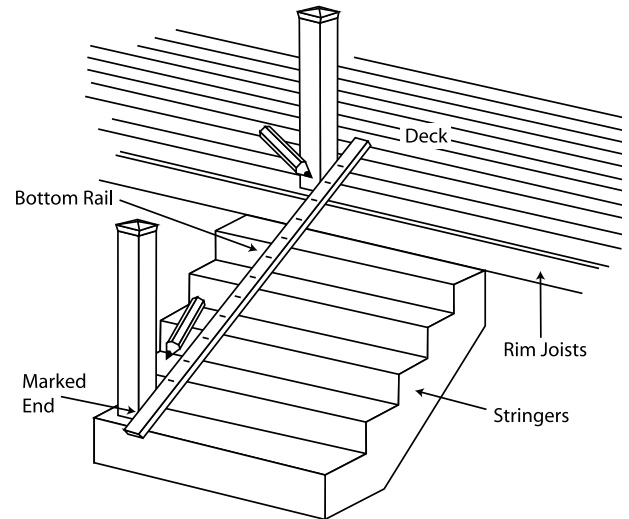

Figure 26
3. Lay bottom rail on stair with marked end at lower post. Center the rail between the posts so that the distance from the post to the first routed hole is equal on both ends. (Figure 26).